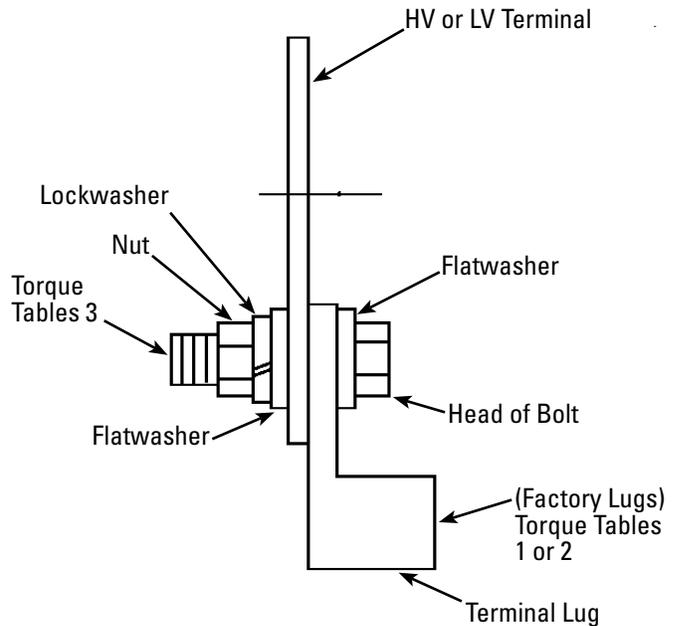

Figure 7
Low-voltage stock transformers from 15 to 75 kVA are equipped with mechanical lugs for convenient installation. Stock low-voltage 112.5 kVA, 3-phase transformers are equipped with primary lugs only. Lugs are not included for "specially designed" or "engineered" transformers. Refer to Figure 7, Page 8 for cable lug installation instructions.
6. Factory supplied lugs should be tightened to the torque values shown in Tables 1, 2 and 3 (see Figure 7). Use manufacturer requirements for customer supplied lugs. In the absence of manufacturer torque requirements, refer to torque tables contained in informative Annex I of NEC 2011 or newer. Note – column B is for field installation (column A refers to current cycle testing only)